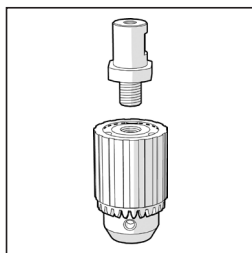

Fig. 10
- Screw the 3 jaw auxiliary chuck into the threaded bore of the chuck adaptor. **(Fig. 10)**